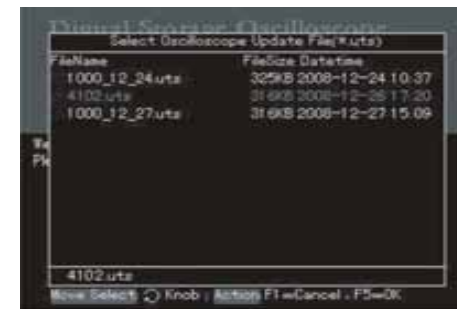

Figure 5-2 Selection of the USB upgrade document
- When **[F5]** is pressed as shown in Figure 5-2, the prompt on the right will appear : “Are you sure you wish to update? If yes, press **[F5]**, otherwise press **[F1]** to cancel upgrade”.